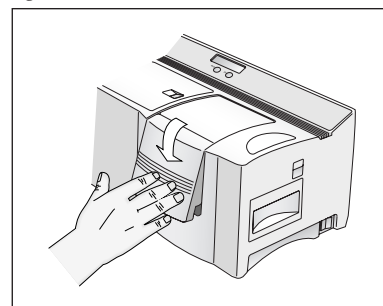

figure 6
- 6 Slowly close the doors. Close the stamp compartment cover to the lock position in order for the xenon lamp to flash (see figure 6).